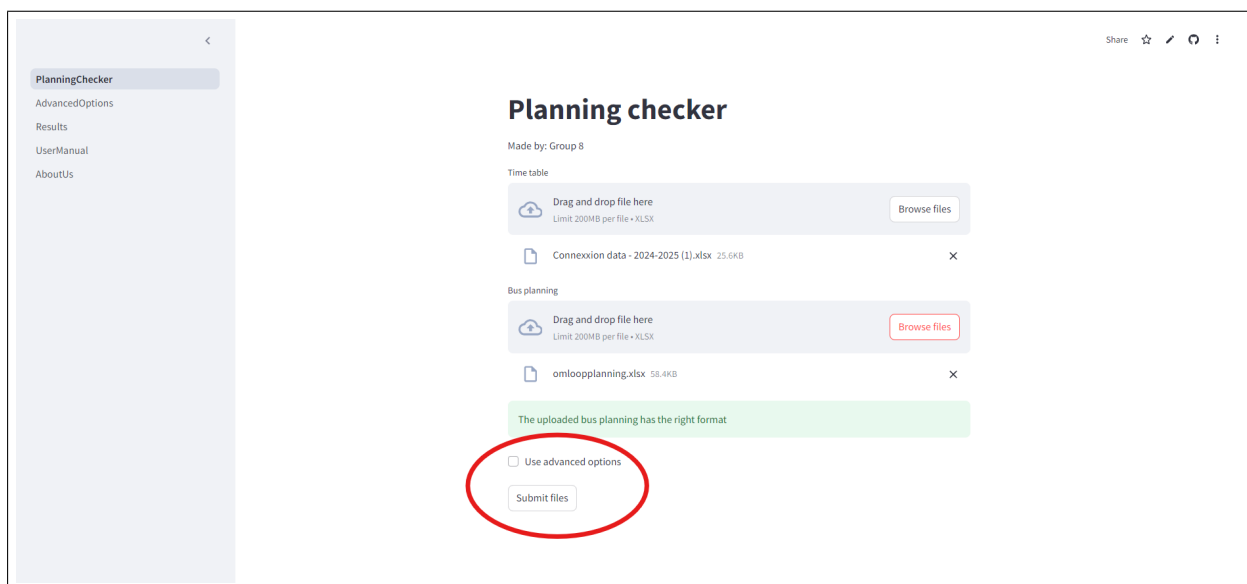

Figure 2: The home screen with the advanced options button highlighted.
1. Before clicking on 'Submit files', check the box 'Use advanced options' to alter the default settings* (see figure 2).